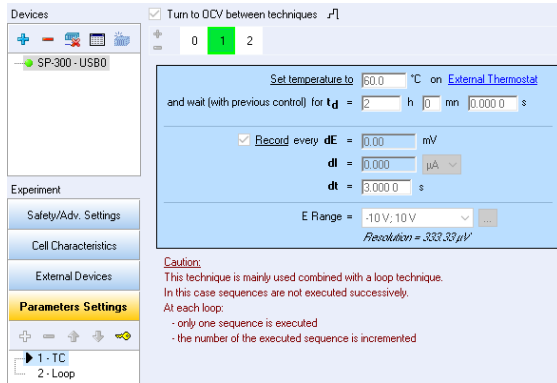

Figure 8: TC protocol with three sequences used for the calibration of Analog In1 and Analog In2.
- In the Parameter settings tab, set the setpoint temperatures in the TC protocol (Fig. 8).
At least two temperature setpoints are needed to plot the linear Temp vs. Voltage graph for each Analog input. For a better accuracy three temperature setpoints were used here. Figure 8 shows the Temperature Control “TC” technique with three sequences corresponding to  $30\text{ }^\circ\text{C}$ ,  $60\text{ }^\circ\text{C}$  and  $90\text{ }^\circ\text{C}$  setpoint temperatures used for the calibration of the two Analog inputs.